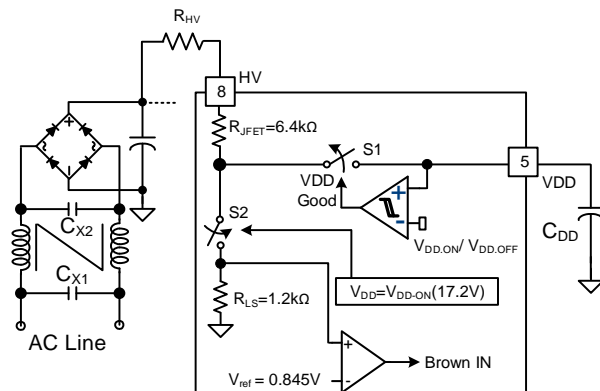
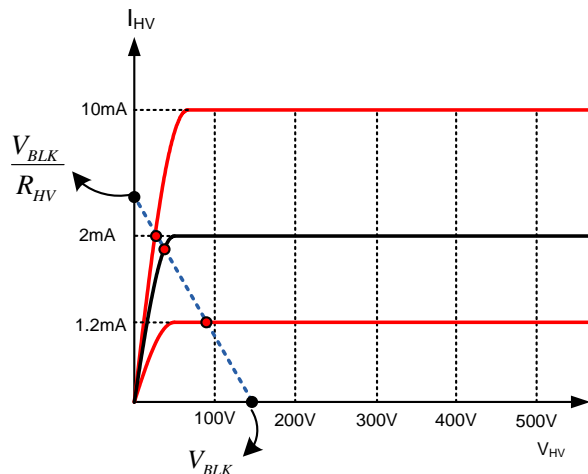

Figure 31 HV Startup Circuit
Figure 32 Characteristics of HV pin
Figure 31 shows the high-voltage (HV) startup circuit. An Internal JFET provides a high voltage current source, whose characteristics are shown in Figure 32. To improve reliability and surge immunity, it is typical to use a R_{HV} resistor between the HV pin and the bulk capacitor voltage. The actual current flowing into the HV pin at a given bulk capacitor voltage and startup resistor value is determined by the intersection point of characteristics I-V line and the load line as shown in Figure 32.
During startup, the internal startup circuit is enabled and the bulk capacitor voltage supplies the current, I_{HV} , to charge the hold-up capacitor, C_{VDD} , through R_{HV} . When the V_{DD} voltage reaches V_{DD-ON} , the sampling circuit shown in Figure 31 is turned on for t_{HV-det} (100 μs) to sample the bulk capacitor voltage. Voltage across R_{LS} is compared with reference which generates a signal to start switching. If brown-in condition is not detected within this time, switching does not start. Equation 8 can be used to program the brown-in of the system. If line voltage is lower than the programmed brown-in voltage, FAN604 goes in auto-restart mode.